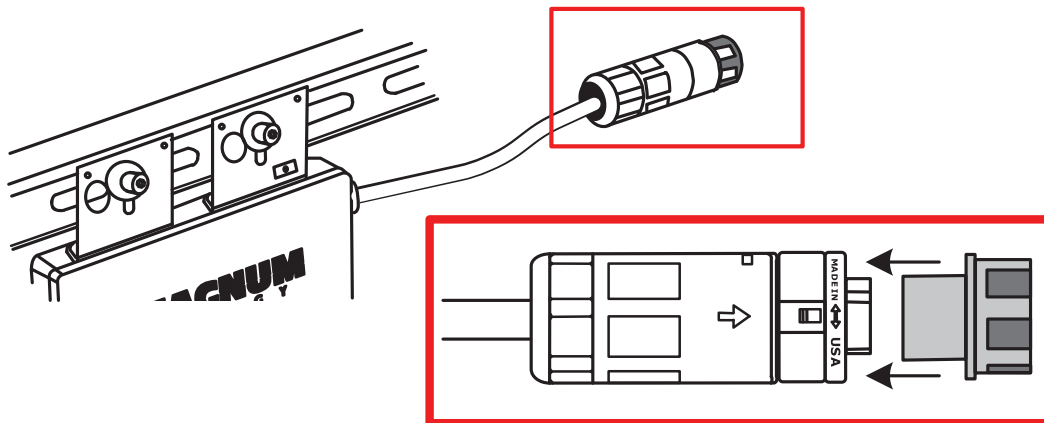

Figure 9, AC Connector Protective End Cap
2. Install a protective end cap on the open AC connector of the last microinverter in the AC branch circuit (Figure 9).